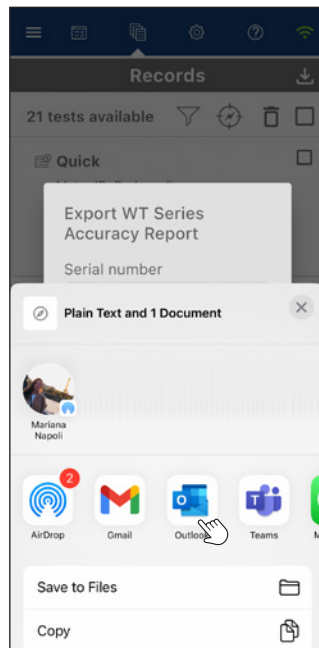

Figure 3
- Select the mail application (iOS). (Figure 3)